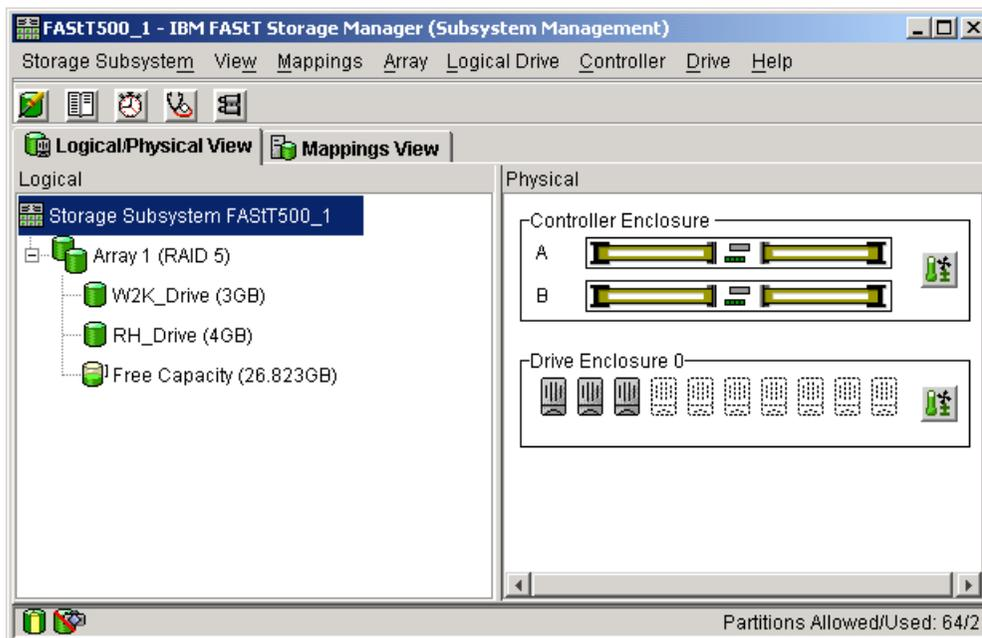

Figure A-2 Subsystem Management window
- Right-click **Storage Subsystem FAST500_1** and select **Manage Device** to display the Subsystem Management window, which shows you the current configuration and free capacity, as shown in Figure A-2.
9. Now that we have defined a logical drive it is time to map this to the Host. Click the **Mappings View** tab, which can be seen in Figure A-2 on page 97, then right-click **Default Group** and create a new Group, which we called SVR2.